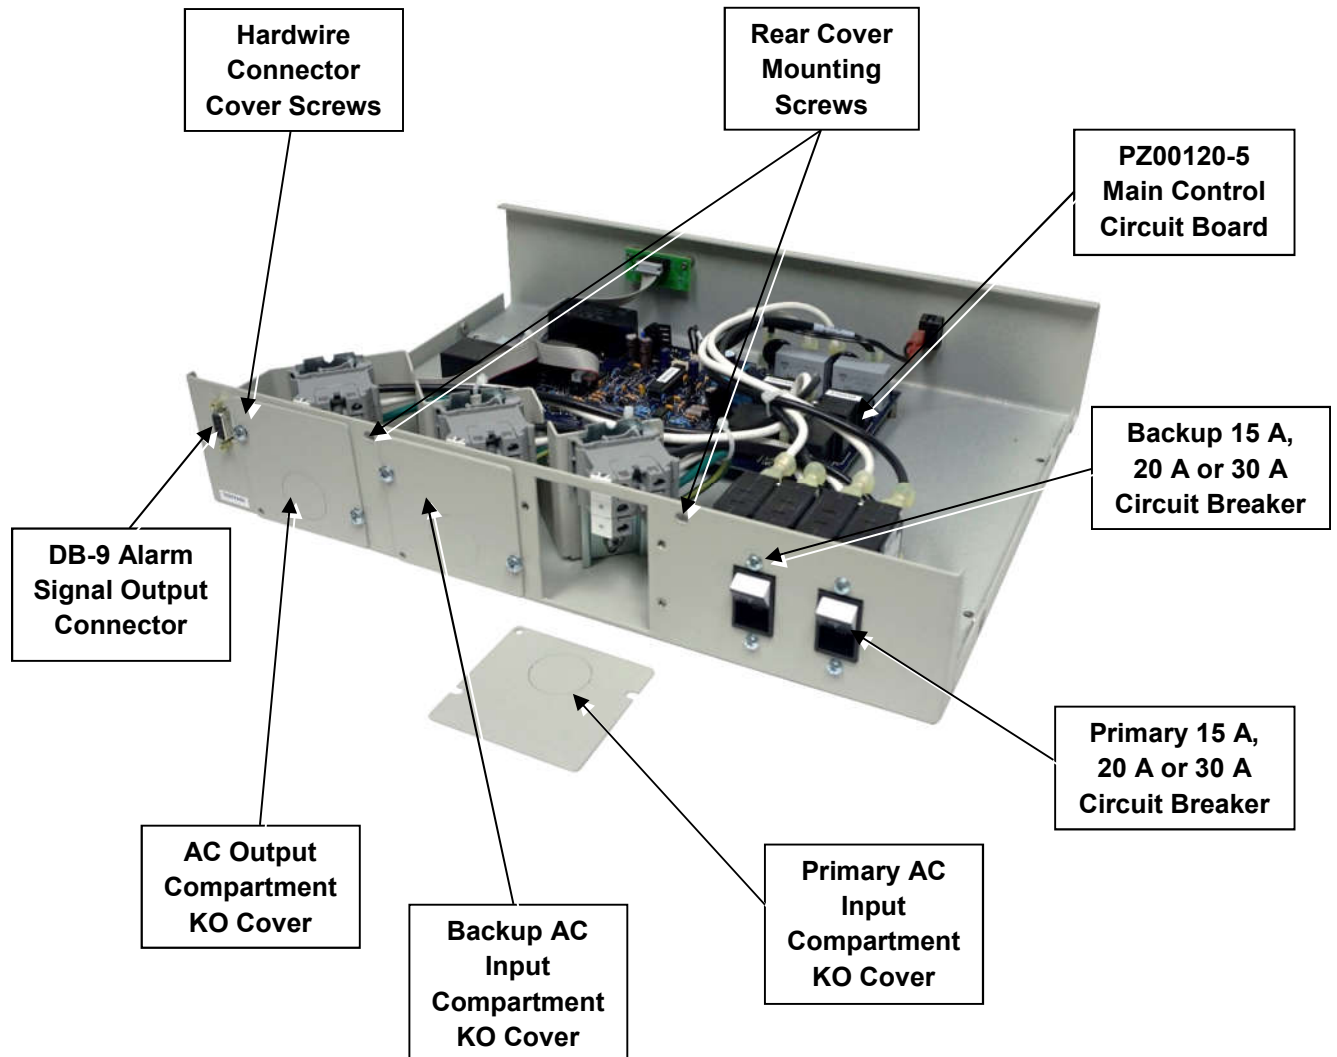

Figure 5: Rear view with top-cover removed showing Hardwired ATS-1000-15, 20 or 30 A models
1.7.1 TOP VIEW WITH COVER REMOVED - See Figures 5 and 6
⚠ DANGER: If the unit has already been installed and prior to the removal of the top cover, make sure that both the **PRIMARY** and **BACKUP INPUT CONNECTORS** in the back of the unit have been disconnected (See Figures 5 and 6).
Two main control circuit boards are used in the ATS Series. The PZ00120-5 is used in the 2000, 3000, 4000, 5000, 6000 and 7000 models, while the PZ00127-5 is used in the models 8000 and 9000. The circuit board assemblies are mounted to the chassis by means of four (4) snap-on standoffs and one M3x0.5 Screw, see Figures 5 and 8 or 6 and 9.
Signals can be transmitted by means of the DB-9 connector in the rear of the ATS unit that provide for remote monitoring of alarms and the remote enable function. See Figures 5 and 11. Pin assignments are outlined in section 4.3 and 4.45.